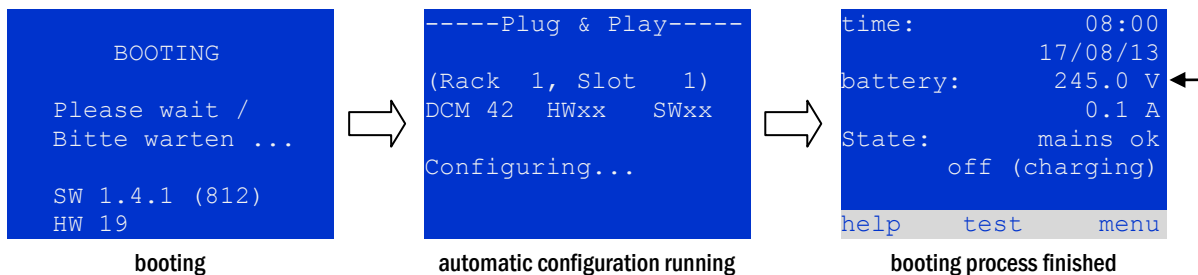

Figure 3: Booting process (left, centre) and status (right)
**10. Checking the battery voltage.** Check the battery voltage by means of the status information in the LC-display (15). It should be between 192V and 250V (fig. 3, right picture, arrow).
**11. Checking the direct current modules (DCM).** Check the LEDs of the DCM-modules (17) and the LDM-charger module (18). Steady green light or blinking of the LEDs indicates correct functioning. Red light/blinking indicates an error (e.g. insulation fault). In this case abort commissioning. For further information see the manual.
**12. Operation mode switch to "ready to operate".** Turn the operation mode switch (16) to "ready to operate" (position "1"). This activates the electric circuits.
**13. Check voltage on circuit terminals.** Check the voltage on all circuit terminals (7). The measured voltage on each circuit in maintained lighting mode should correspond to the AC mains voltage.
**14. Open quiescent current loop.** Open the quiescent current loop (3) (for exact pin assignment see connection diagram).
**15. Check voltage on circuit terminals again.** Check voltage on all circuit terminals again (7). The measured voltage on each circuit should correspond to the alternating mains voltage.
**16. Close quiescent current loop.** Close quiescent current loop (3) (for exact pin assignment see connection diagram). The system keeps running and remains in modified non-maintained lighting mode for ca. 1 minute, before each circuit returns to its programmed operation mode. Now the installation process is completed and the system is ready to operate.